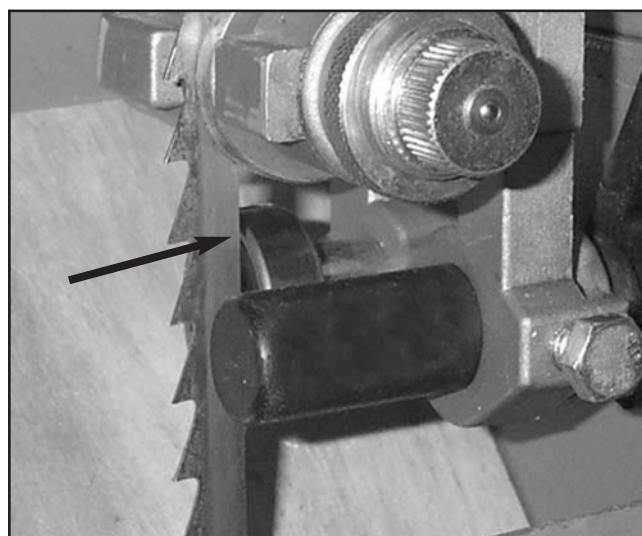

Figure 16. Back bearing just touches the back of the blade.
2. Adjust the support bearing shaft so it just touches the back of the blade as in **Figure 16**.